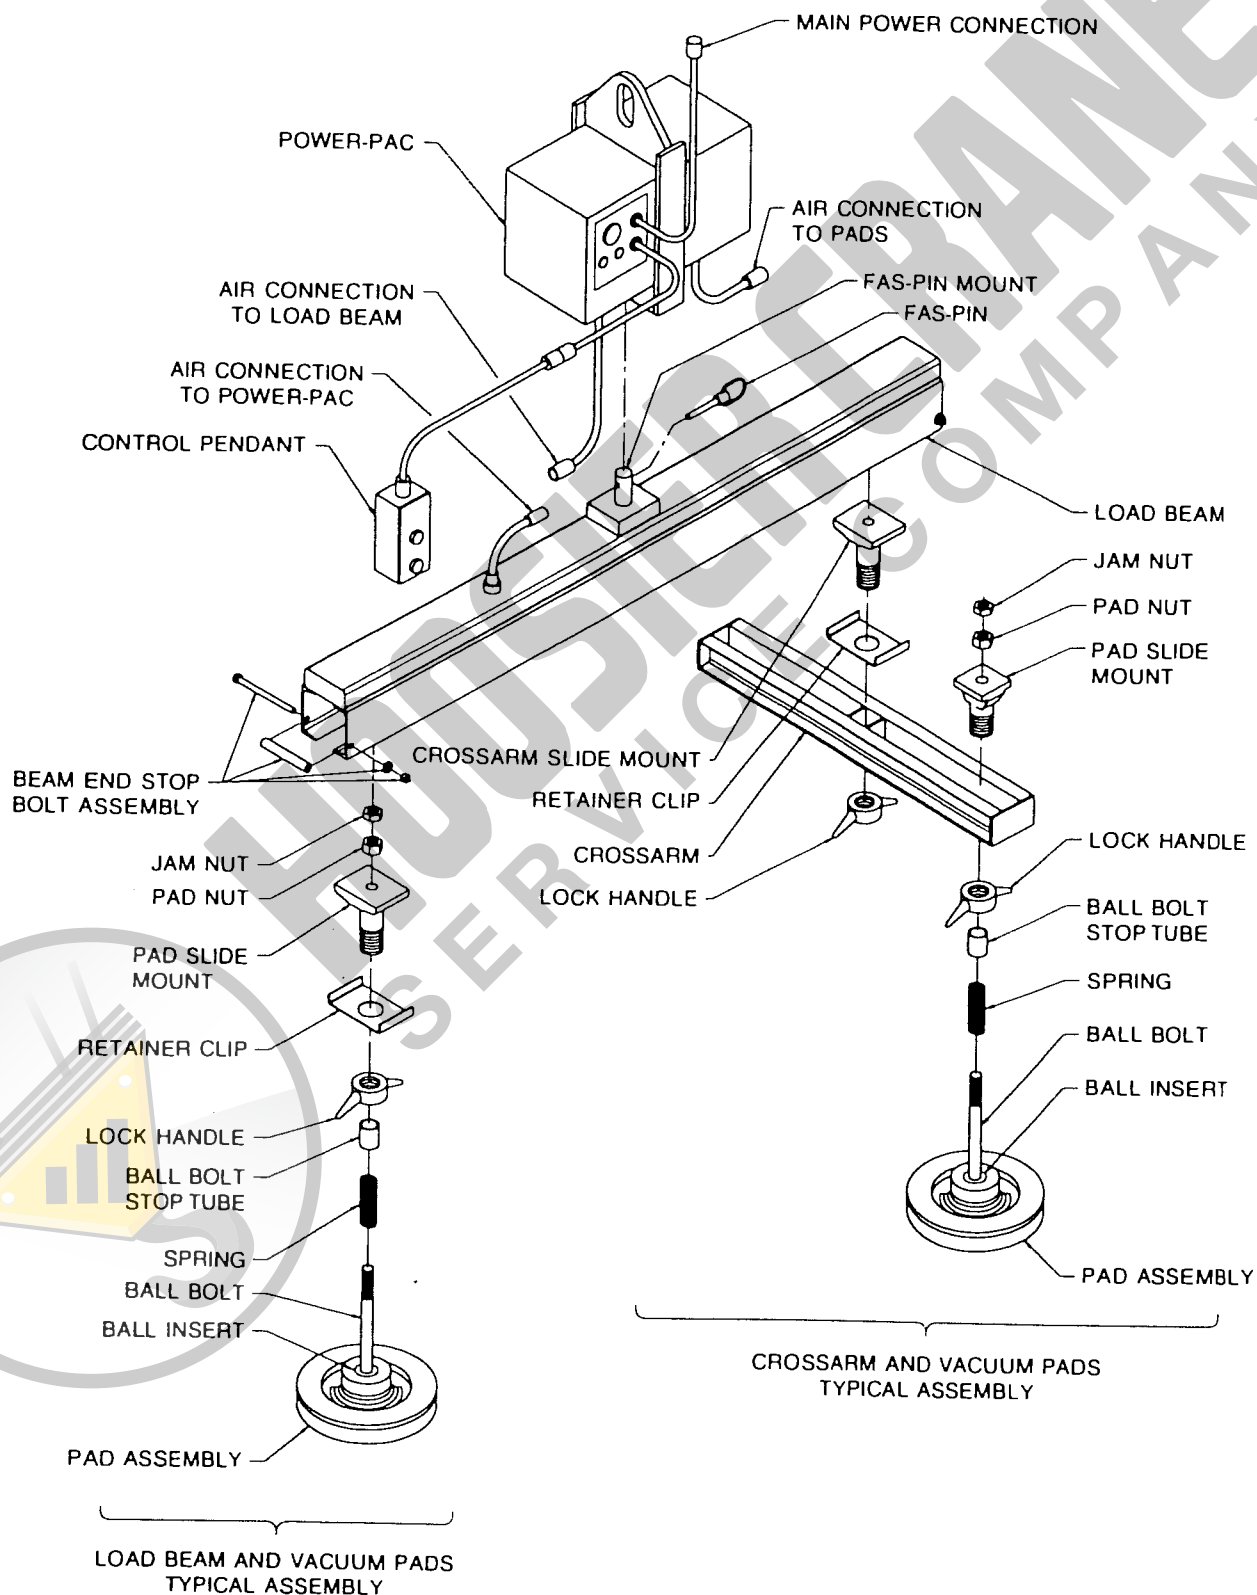

FIGURE 10
1. Every VAC-U-LIFT® vacuum lifter is fully assembled at the factory prior to shipment. Some lifters are disassembled to facilitate shipment, but the original assembly assures that all parts fit and that the lifter is complete. If assembly is required, refer to Figure 10 and assemble the lifter as follows: